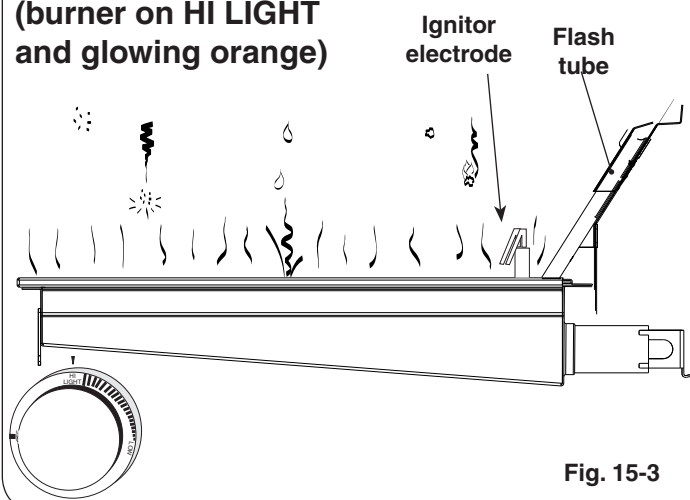

Fig. 15-3
- DO NOT place food on the cooking grid until the IR burner glows orange (Fig. 15-3). Drippings are heated and evaporate instead of sticking to and impairing burner function.